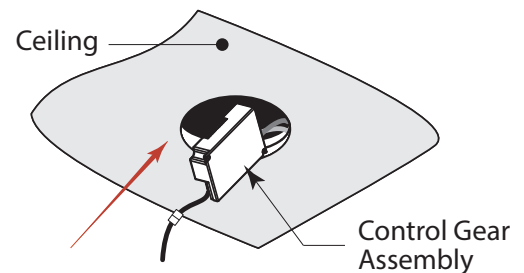

FIGURE 3
Step 3. Once supply line is connected, INSERT CONTROL GEAR ASSEMBLY INTO CEILING OPENING and rest nearby on ceiling material. *See Fig. 3*